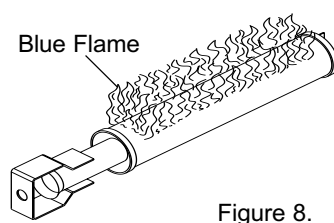

Figure 8.
2. Visually inspect the main burner and the pilot burner flame. The normal color of the flame is blue. When flame appears yellow, burners should be inspected and cleaned; see Figure 8.